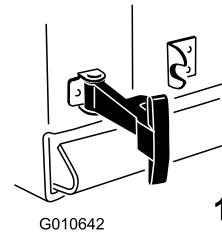

Figure 8
7. Hook the front flexible latch on the chute to the retaining clasp welded to the front wall of the mower deck (Figure 8). Hook the flexible latch on the back of the chute to the retaining clasp welded to the rear wall of the mower deck.